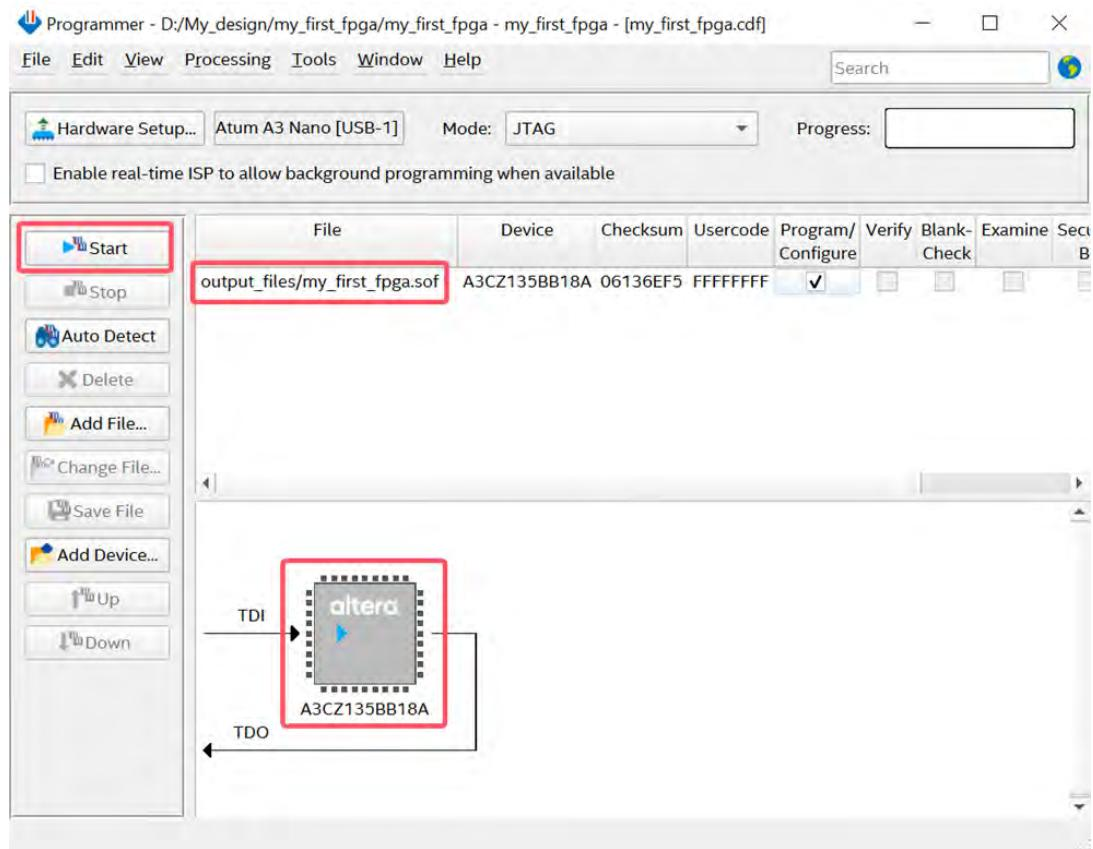
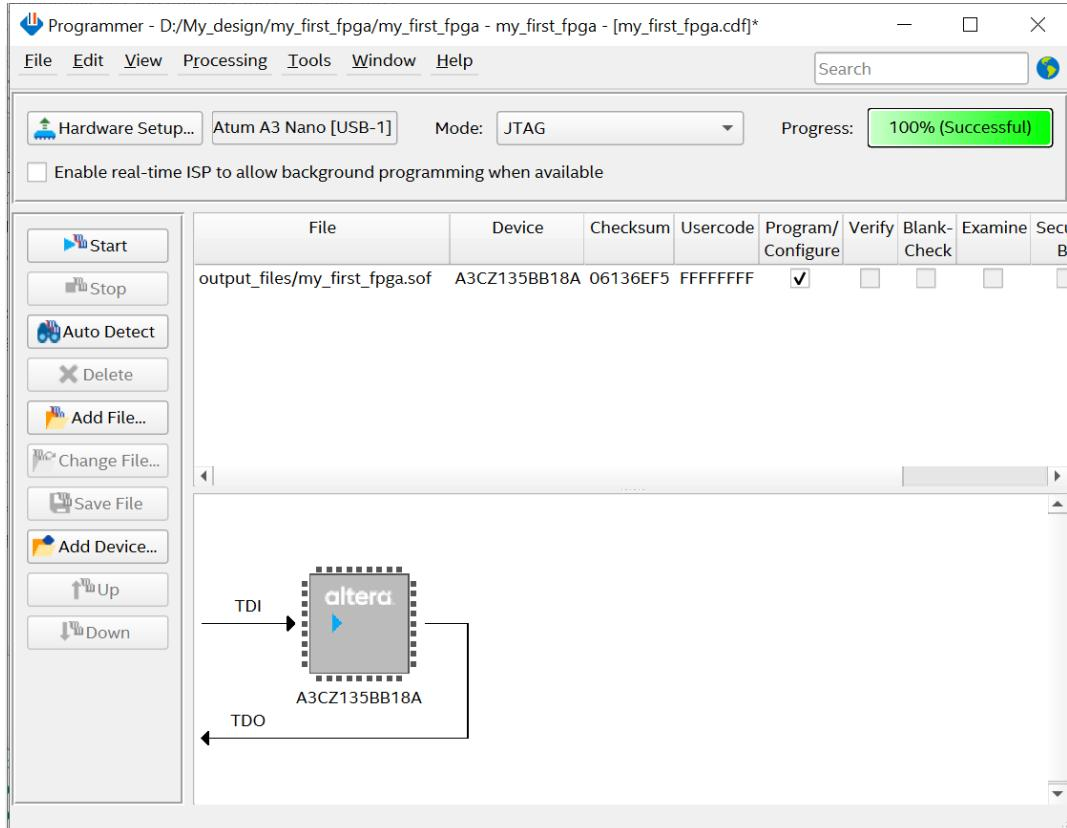

Figure 4-6 Download .sof file
Figure 4-7 Download .sof successfully
5. As the FPGA device and the .sof file are default selected, you can click “Start” button directly to download .sof file into FPGA, as shown in **Figure 4-6**. The .sof file is download successfully as shown in **Figure 4-7**.